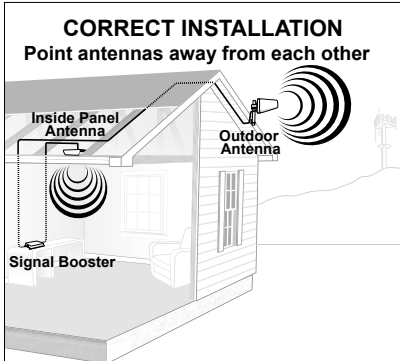

Figure 1
Note: *Never point the front of a directional antenna toward the Inside Antenna. See Figures 1 & 2 on page 10.*
1. Never point the front of a directional Outside Antenna toward the Inside Antenna. Refer to Figures 1 & 2 above.